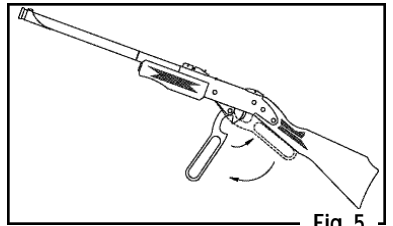

Fig. 5
- With the muzzle end of the barrel raised upward (front sight also pointed upward) in a SAFE DIRECTION, pull the cocking lever all the way outward until you hear a click (Fig. 5).
- Close the cocking lever as shown in Fig. 5, making sure to hold it firmly to prevent it from springing open and possibly causing injury.